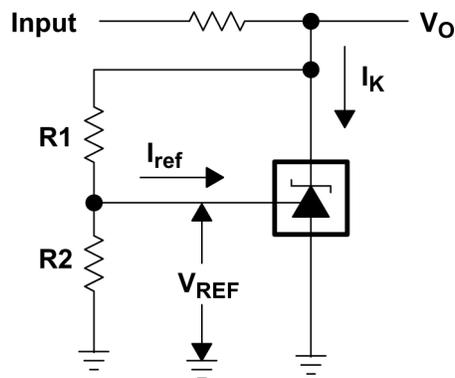

Figure 6-2. Test Circuit for $v_{KA} > V_{REF}$, $V_O = V_{KA} = V_{REF} \times (1 + R1/R2) + I_{ref} \times R1$
| $\frac{\Delta V_{REF}}{\Delta V_{KA}}$ Ratio of V _{REF} change in cathode voltage change | V _{KA} = V _{REF} to 6V, I _K = 10mA (see Figure 6-2) | | | -1.5 | -2.7 | mV/V |
| I _{ref} Reference terminal current | I _K = 10mA, R1 = 10kΩ, R2 = open (see Figure 6-2) | | | 0.15 | 0.5 | μA |
| I _{ref(dev)} I _{ref} deviation over full temperature range ⁽²⁾ | I _K = 10mA, R1 = 10kΩ, R2 = open ⁽¹⁾ (see Figure 6-2) | TLV431AC | | 0.05 | 0.3 | μA |
(3) The dynamic impedance is defined as $|z_{ka}| = \frac{\Delta V_{KA}}{\Delta I_K}$. When the device is operating with two external resistors (see Figure 6-2), the
| $\frac{\Delta V_{REF}}{\Delta V_{KA}}$ Ratio of V _{REF} change in cathode voltage change | V _K A = V _{REF} to 6V, I _K = 10mA (see Figure 6-2) | | | -1.5 | -2.7 | mV/V |
| I _{ref} Reference terminal current | I _K = 10mA, R1 = 10kΩ, R2 = open (see Figure 6-2) | | | 0.1 | 0.5 | μA |
| I _{ref(dev)} I _{ref} deviation over full temperature range ⁽²⁾ | I _K = 10mA, R1 = 10kΩ, R2 = open ⁽³⁾ (see Figure 6-2) | TLV431BC | | 0.05 | 0.3 | μA |
- (3) Full temperature ranges are –40°C to 125°C for TLV431Q, –40°C to 85°C for TLV431I, and 0°C to 70°C for TLV431C.
- (4) dynamic impedance is defined as $|z_{ka}| = \frac{\Delta V_{KA}}{\Delta I_K}$. When the device is operating with two external resistors (see Figure 6-2), the total